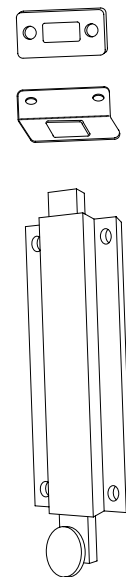

FIGURE 12
2. Surface Bolts, Figure 12, require manual operation for both latching and unlatching. They may be placed at the top or bottom of door.